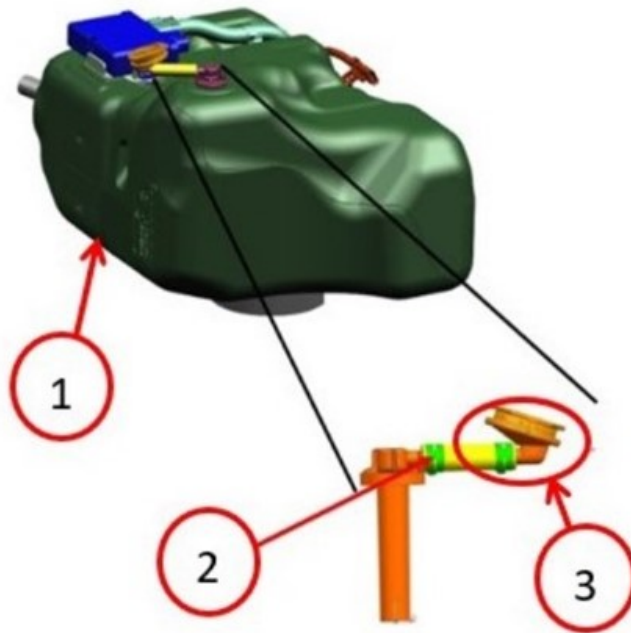

Fig. 1
1. ****Loosen the hose clamp on the Grade Vent Valve (GVV) hose and replace the GVV from the DEF tank Fig. 1.**